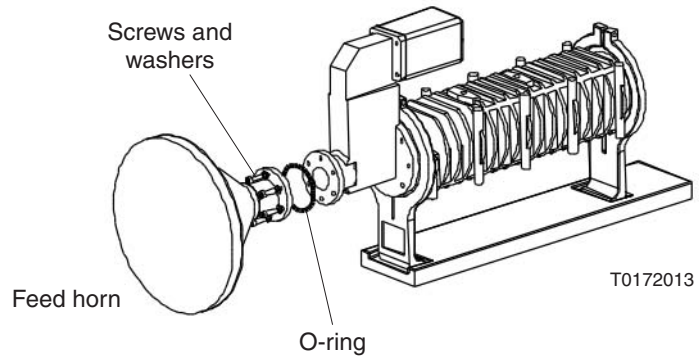

Figure 34: Attaching the feed horn and radio assembly
7. To attach the feed horn to the radio assembly, refer to Figures 34 and 35 and follow steps 1 through 3 below.